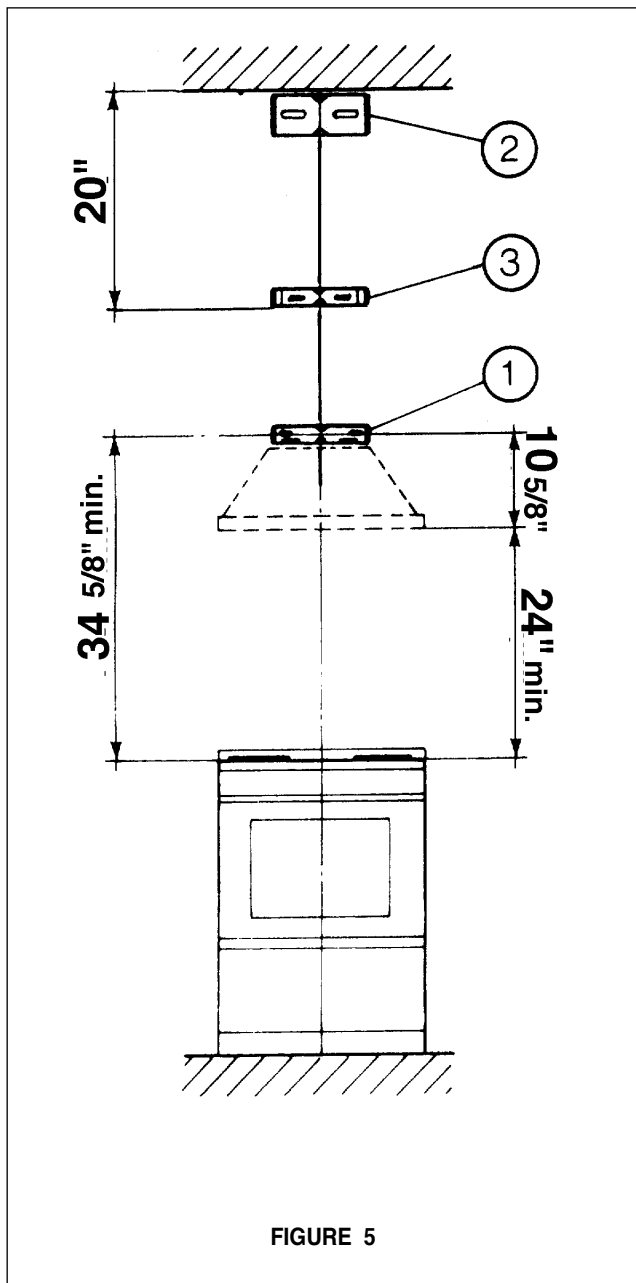

FIGURE 5
3. The Nova attaches to the wall by three mounting brackets, points **1, 2 and 3 in FIGURE 5**. The canopy of the rangehood hangs from two metal flanges that extend from bracket **1**. This bracket must be mounted with the flanges on the bottom of the bracket. The dimensions in **FIGURE 5** are for mounting the canopy 24" above the cooking surface.
4. The chimney attaches to the wall by two additional brackets, **points 2 and 3 in FIGURE 5** which illustrates the positioning of the chimney brackets. The largest bracket, **2**, should be installed about 1/8" away from the ceiling. The middle bracket (bright metal) must be installed with the ends touching the wall and the curves facing outward. The middle bracket must be installed at the bottom point of the upper chimney sleeve.